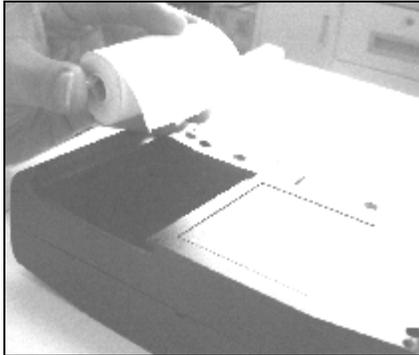
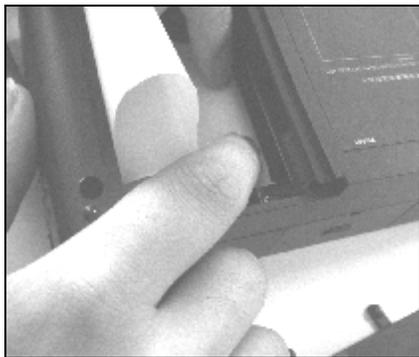

Figure 1-07b
Figure 1-07c
2. Take out the spindle and mount the paper scroll onto the spindle. See Figure 1-07b.
3. Put the paper spindle into the printer with correct direction. The paper may not be fed if the direction is wrong. See Figure 1-07b and Figure 1-07c.